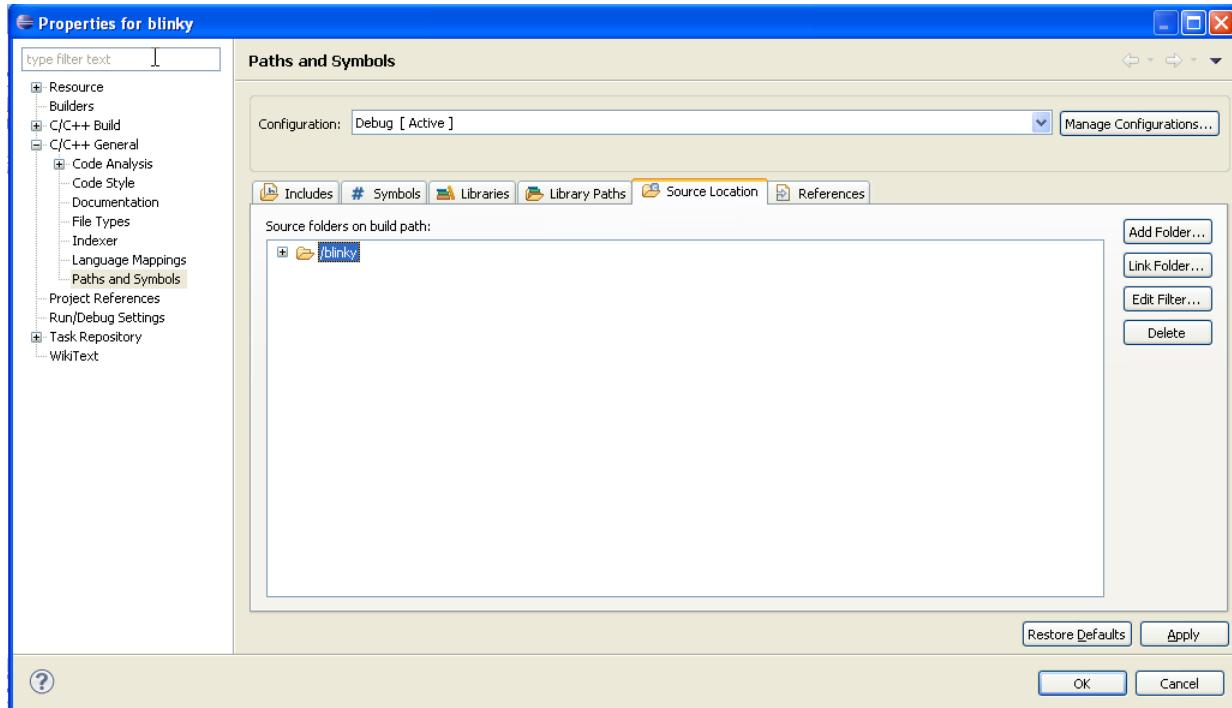

**Figure 14.15 Add Directory Path**
- Select Add Directory Path. A window similar to that shown in Figure 14.15 will be displayed.